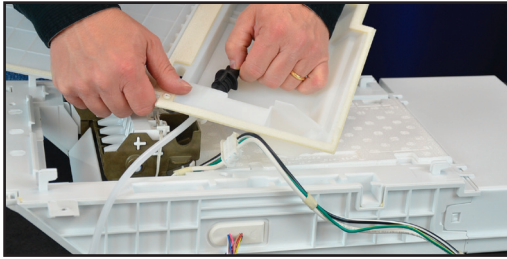

FIGURE 35
- Remove ice maker fill tube by pushing into ice box cover and pulling through hole. See *Figure 35*.